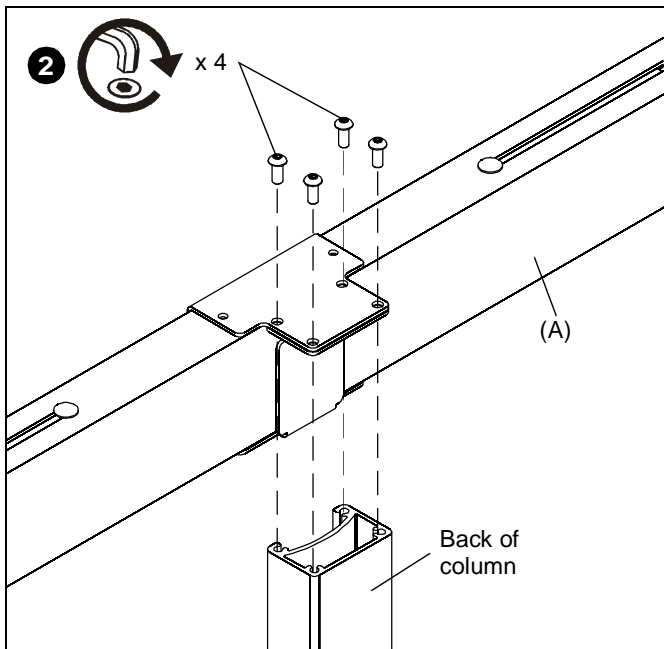

Figure 2
2. Use the four fasteners removed in Step 1 to fasten the extension assembly (A) to the cart/stand column. (See Figure 2)